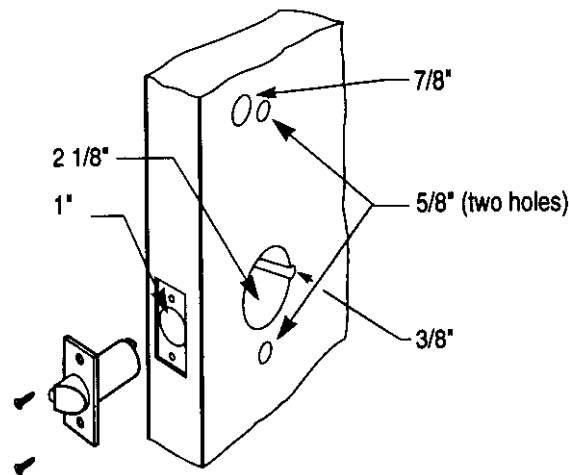

Figure 2.3
4. From the inside of the door, drill 3/8" diameter hole through the door for motor wires. See Figure 2.3.